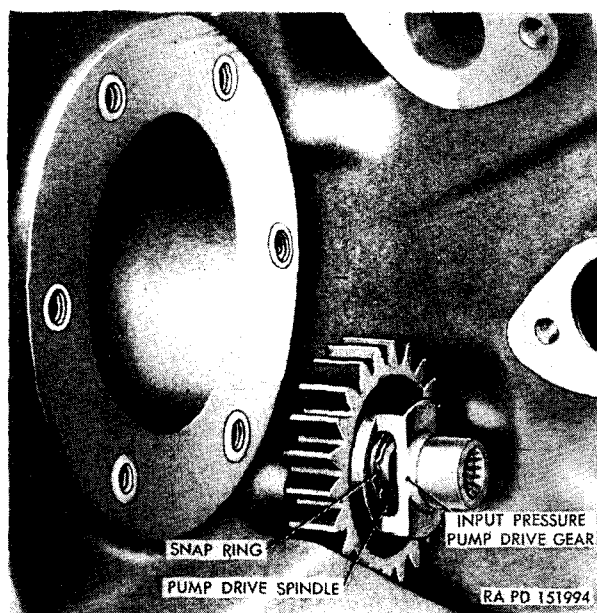

Figure 255. Snap ring location.
- (3) Using snap ring pliers (41-P-1992-27), remove the snap ring which retains the input-pressure-pump drive gear and bearing assembly to the pump-drive spindle (fig. 255). Bend back the tabs on the spindle lock plate and, using a $\frac{1}{2}$ -inch wrench, remove the nuts and lock plate from the spindle flange.